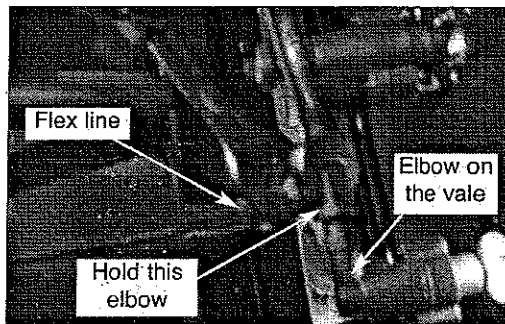

Fig 16
17. Connect the thermocouple connector to the valve hand tight. (See Fig. 16)